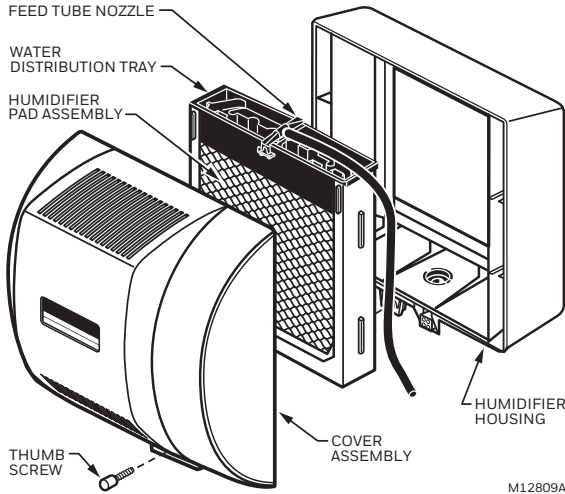

Fig. 17. Cleaning your humidifier.
2. Remove the humidifier cover by unplugging the connector and loosening the thumb screw. Grasp the cover near the bottom and pull toward you. See Fig. 17.